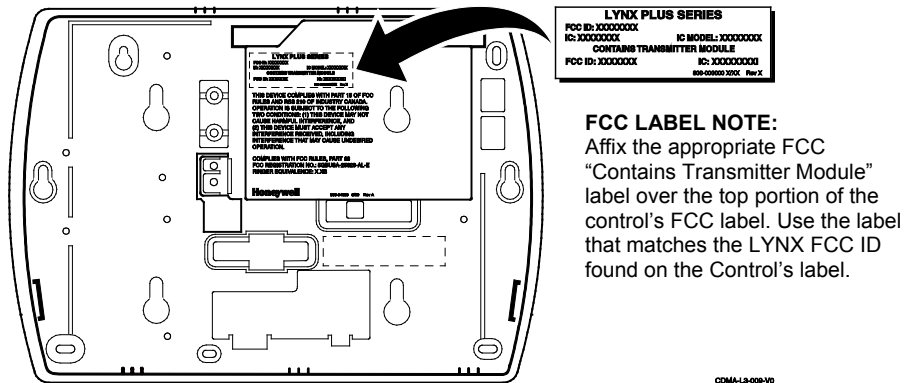

Figure 2 – FCC/IC Label location
1. Install the appropriate FCC/IC label (provided) on the control's back case as shown in Figure 2.